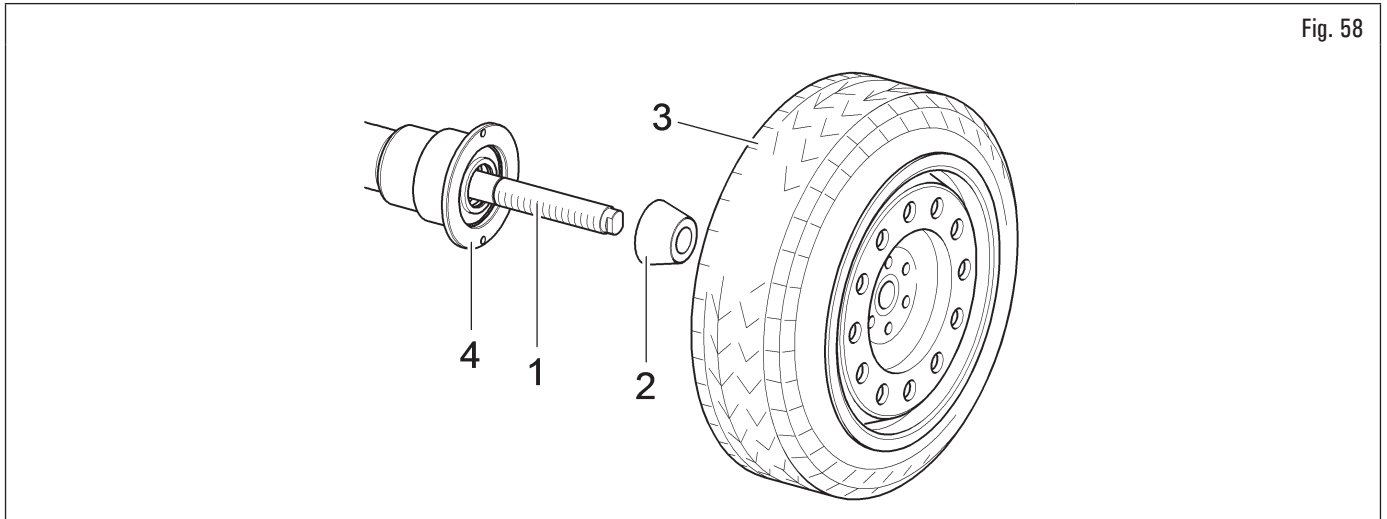

Fig. 58
1. Remove any type of foreign body from the wheel (Fig. 58 ref. 3): already-existing weights, stones and mud, and make sure the chuck (Fig. 58 ref. 1) and the rim centring area are clean before fitting the wheel on the chuck;
2. carefully choose the cone (Fig. 58 ref. 2) most suitable for the wheel to be balanced. These accessories must be selected according to the shape of the rim. Carefully position the wheel (Fig. 58 ref. 3), fitting the cone (Fig. 58 ref. 2) on the chuck (Fig. 58 ref. 1) (otherwise this could seize) until this rests against the support flange (Fig. 58 ref. 4);